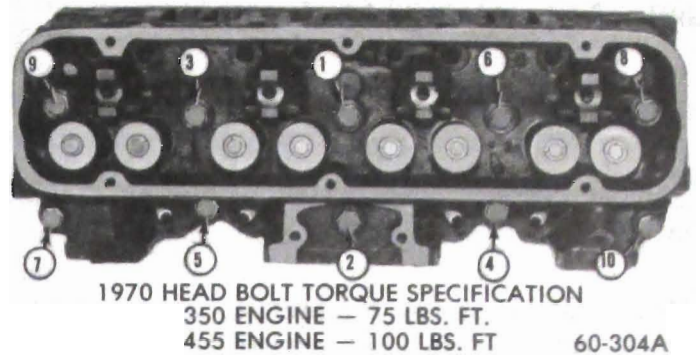

Figure 60-17 - Cylinder Head Bolt Tighten Sequence (350 Shown)
5. Install head bolts. Tighten the bolts a little at a time about three times around in the sequence shown in Figure 60-17. Give bolts a final torque in the same sequence. Torque to 75 lb.ft. (350 Cu In.) and 100 lb. ft. (455 Cu. In.).